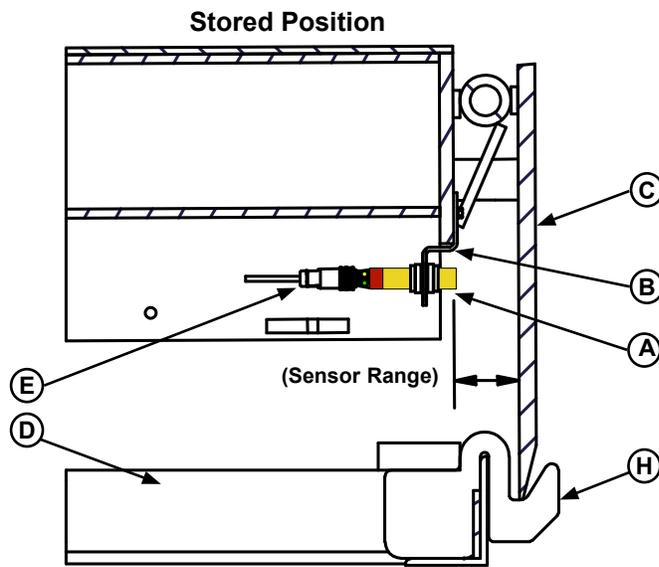

Figure 14
1. Install the photosensor (A) into the mounting bracket (B) using the plastic sensor nuts. Make sure that the sensor will not interfere with the lip plate (C) or frame (D), or the sensor could be damaged.
2. Connect the cable (E) to the sensor. See **Figure 14**.
6. If necessary, adjust the sensor position in the bracket by loosening the plastic sensor nuts to reposition the sensor. Adjust the sensor until it only reads the lip plate while the lip is folded fully, and in the lip keepers. See **Figure 14**.